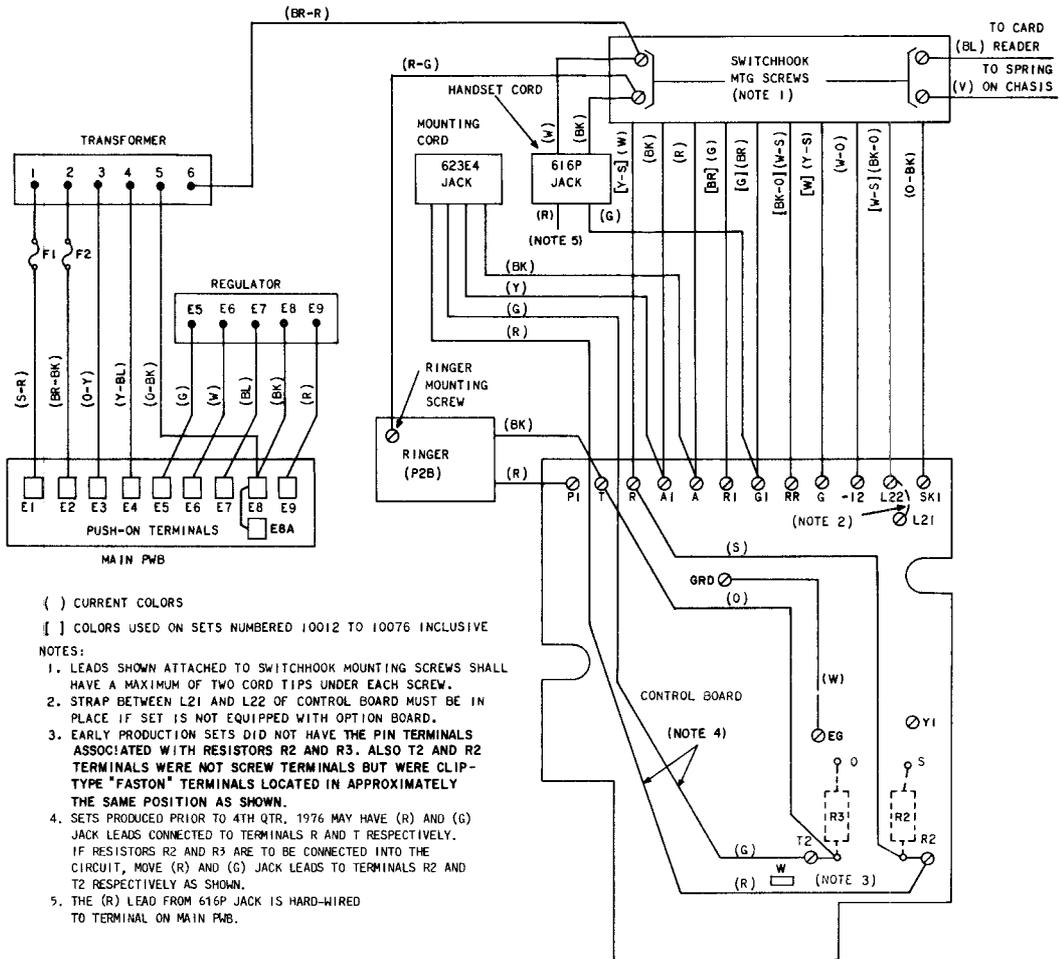

Fig. 9—Partial Schematic Showing Conductors Attached by Screws or Push-On Terminals
*If the auxiliary manual entry pad should ever be removed, it is imperative that leads be reconnected to their normal locations. Remove the (BK) lead from the connector on the black mounting cord conductor and reterminate on terminal E8.*
(d) Connect the slate (S) spade-tipped mounting cord conductor to terminal Y1 on the control board (Fig. 9).
(e) Connect the white (W) spade-tipped mounting cord conductor to terminal W on the control board (Fig. 9).
- (c) Check for loose wire or connections on main PWB or control board (Fig. 9).